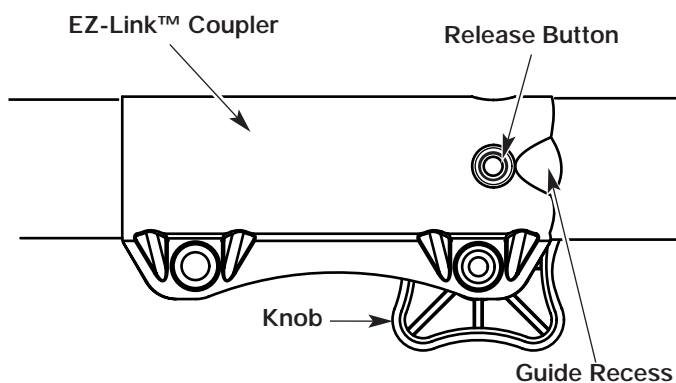

Figure 9
1. Turn the knob counterclockwise to loosen. See Figure 9.
2. Press and hold the release button. See Figure 9.
NOTE: Aligning the release button with the guide recess will help installation. See Figure 9.